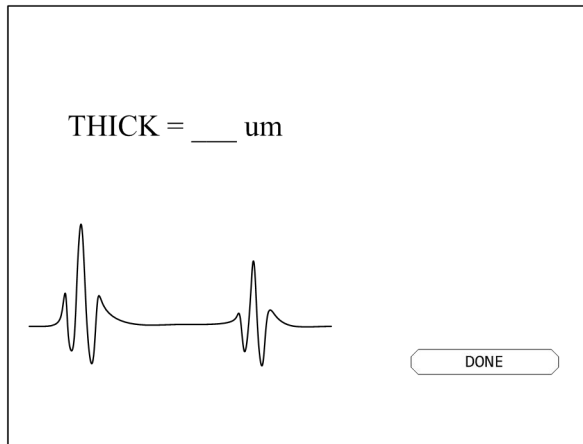

Figure 5-5 Pachymetry Calibration Screen
1. Enter Pachymetry Calibration Screen (Figure 5-5) by select the [Calibration...] item of the Menu of Pachymetry Screen.